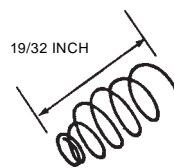

Figure 3.3.9A
- B. Visually inspect the loading spring. Overall free standing length should be greater than 19/32 inch. (See Figure 3.3.9A.) Look for flat spots on the spring windings. Springs that appear worn or do not meet the overall length requirements must be replaced. Reference Section 7.13 of this manual.